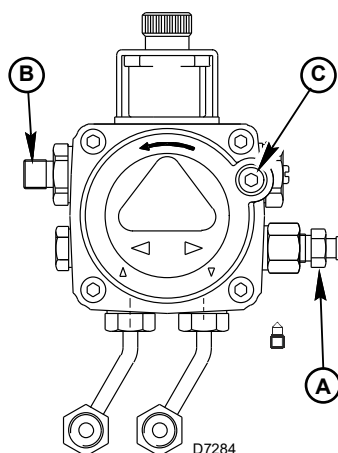

Fig. 16
To protect the pump gears, it is advisable to lubricate the pump prior to purging a lift system. Apply oil through the vacuum port C)(Fig. 16).
- I. Loosen the bleeder valve A)(Fig. 16) until oil flows out. Tighten the bleeder valve securely and start burner.
- 1 Loosen the bleeder valve A)(Fig. 16).
- 2 Disconnect nozzle oil supply line at the pump nozzle port B)(Fig. 16).